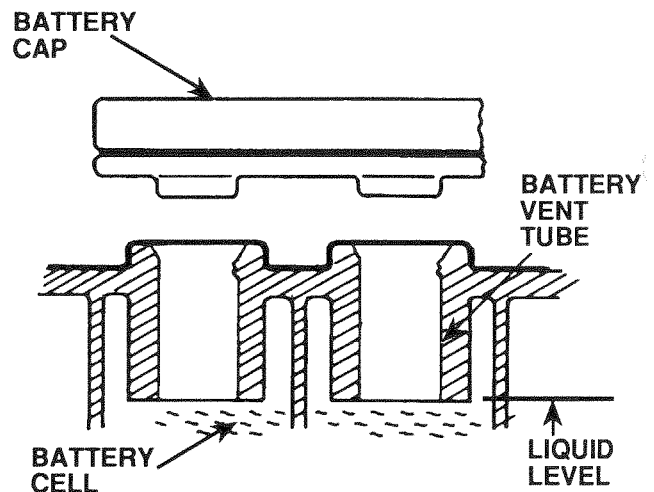

FIGURE 19
- a. Battery acid solution level in each Battery Cell should be even with bottoms of tubes in cells (Fig. 19). Add only distilled or iron-free water if necessary. NOTE: DO NOT OVERFILL. DO NOT ADD ACID.